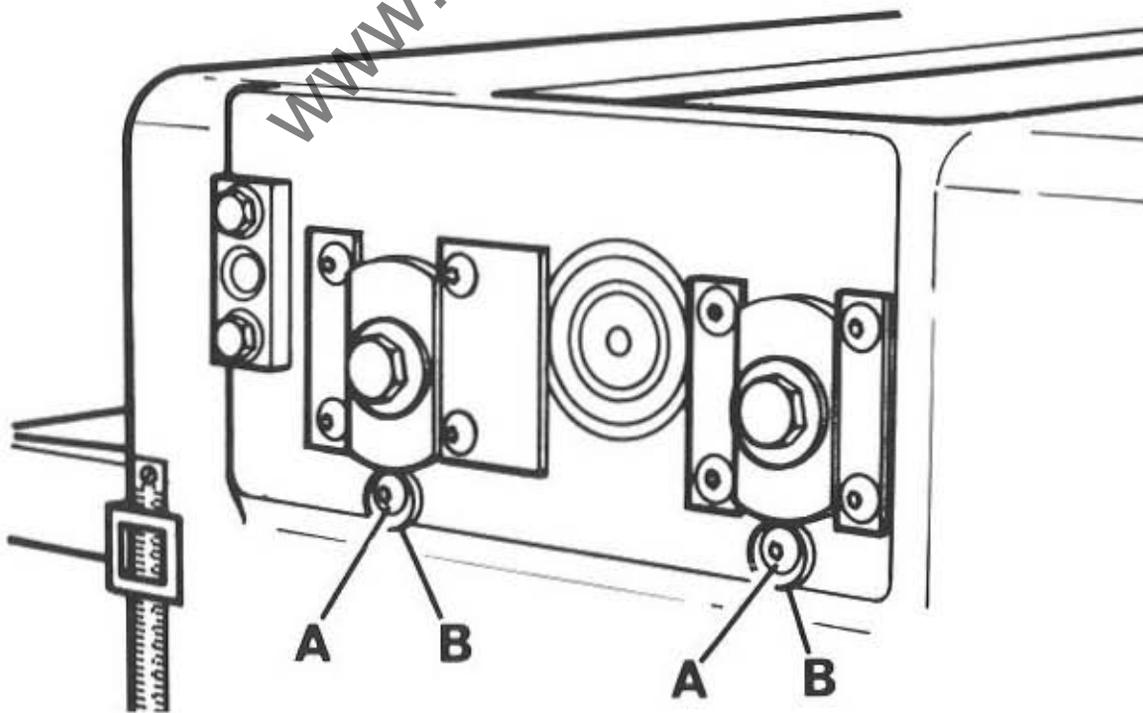

FIG. 5
6. Loosen the 4 button head socket screws "A" in FIG.5 on feed roller adjusting cams "B" (NOTE: 1 cam under each feed roller mounting bracket, 2 on drive side & 2 on handwheel side).
When setting is correct, re-lock 4 button head socket screws "A" in FIG. 5. (2 on drive side and 2 on handwheel side).